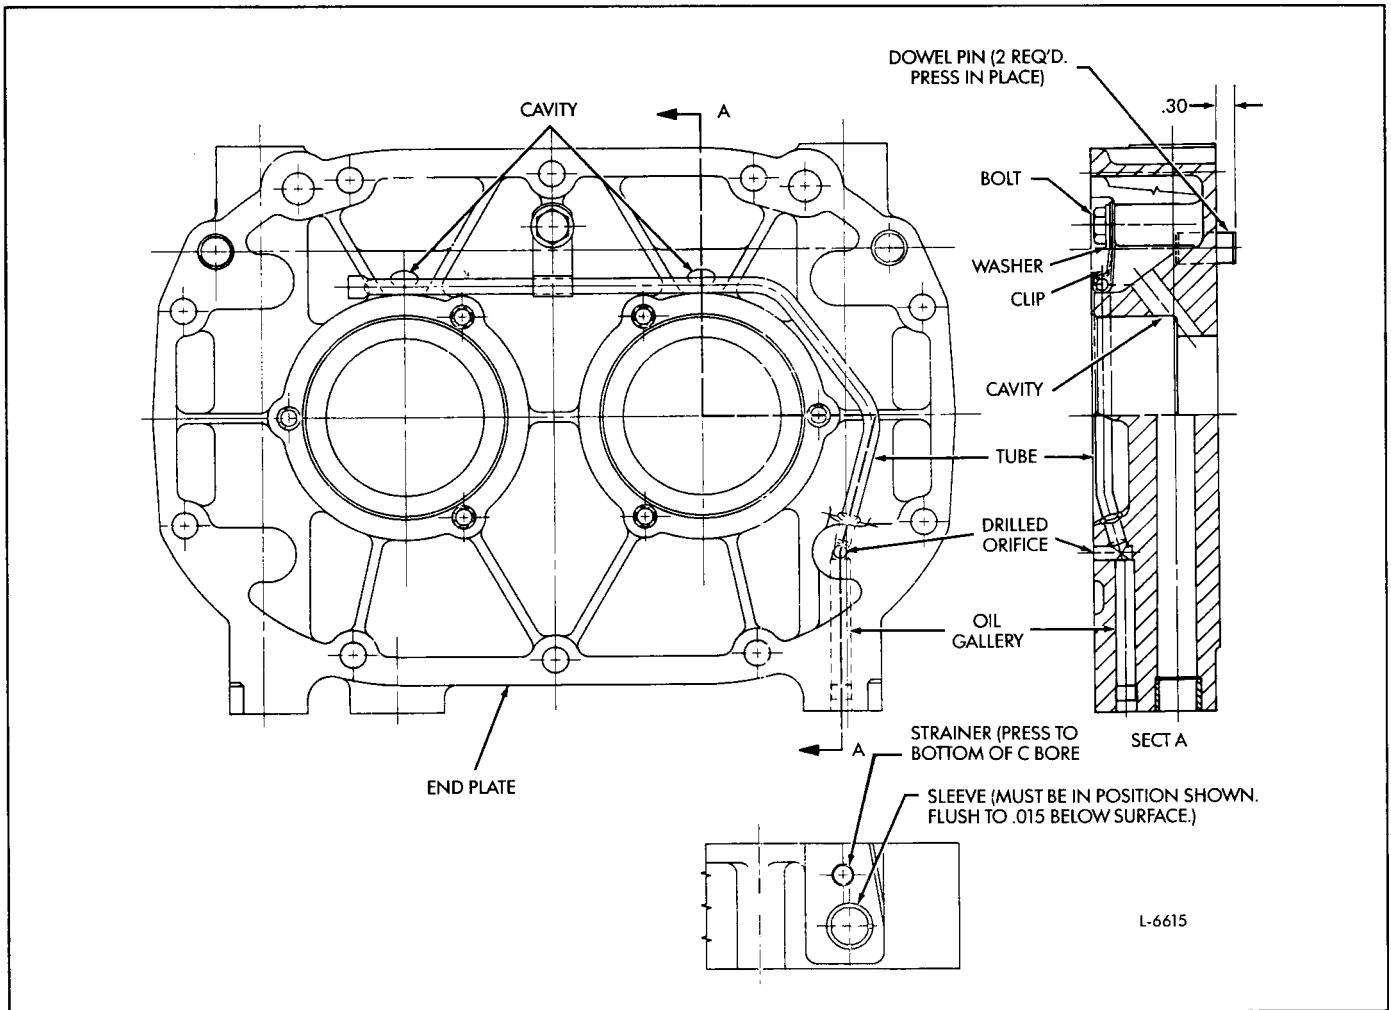

Fig. 2 – Blower Housing Rear End Plate
- Blowers on current Series 149 engines incorporate a rear end plate with a steel lubrication tube secured by a bolt, washer, and clip (Fig. 2). Oil diverted to the tube squirts out two discharge holes, filling the cavities above the bearing bores in the end plate. As oil drains from the cavities, it flows over the bearings, providing positive lubrication and cooling.